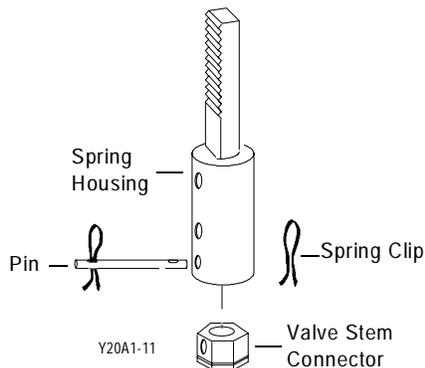

Figure 11: Rack Subassembly
1. Remove the spring clip and pin from the spring housing as shown in Figure 11.